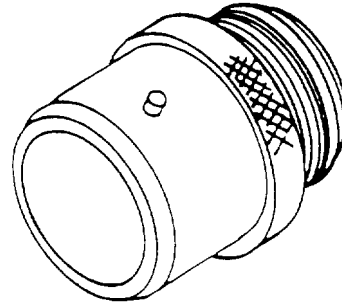

Figure 7. Typical Receptacle Shell
11. **SHELL.** The shell (Figure 7) is usually fabricated of plated aluminum, steel, or composite, and supports and protects the insulator insert. Some receptacle shells are also used for in mounting. These shells are polarized to prevent mismatching of similar connectors.